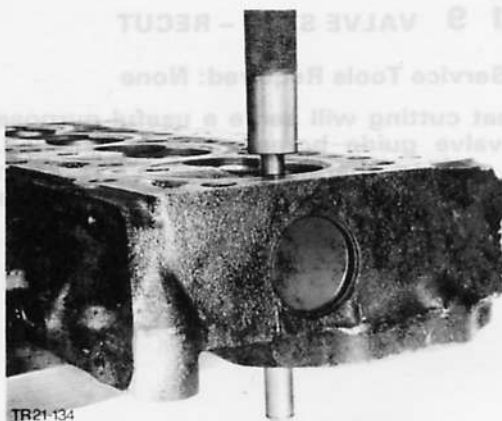

Fig. 122. Remove valve guide
1. Using Special Tool 21-021 press valve guide out of cylinder head from below, Fig. 122.